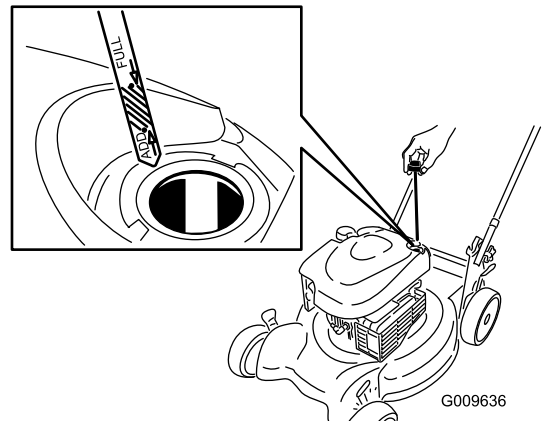

Figure 9
1. Remove the dipstick, wipe it clean, and fully install the dipstick (Figure 9).
2. Remove the dipstick and check the oil level (Figure 9). If the oil level is below the **Add** mark on the dipstick, slowly pour oil into the oil fill tube to raise the oil level to the **Full** mark on the dipstick. **Do not overfill.** (Max. fill: 20 oz. (0.59 l), type: SAE 30 detergent oil with an API service classification of SF, SG, SH, SJ, SL, or higher.)